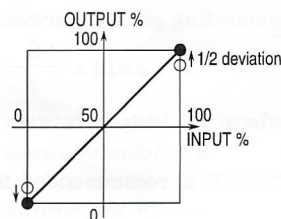

Fig. 9
6) With 100% input, adjust the other half of the deviation with Span adjustment in order to get 100% output. See Figure 9.